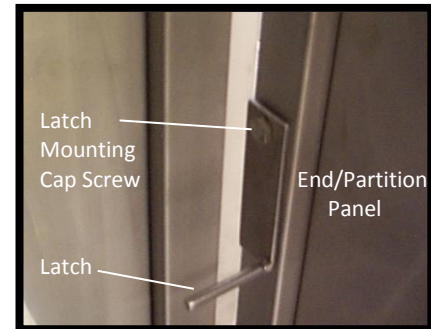

Figure 72: Resting Shelf Latch
1. With a 7/16 in. wrench, remove the latch mounting cap screw (Figure 72), and remove the latch.